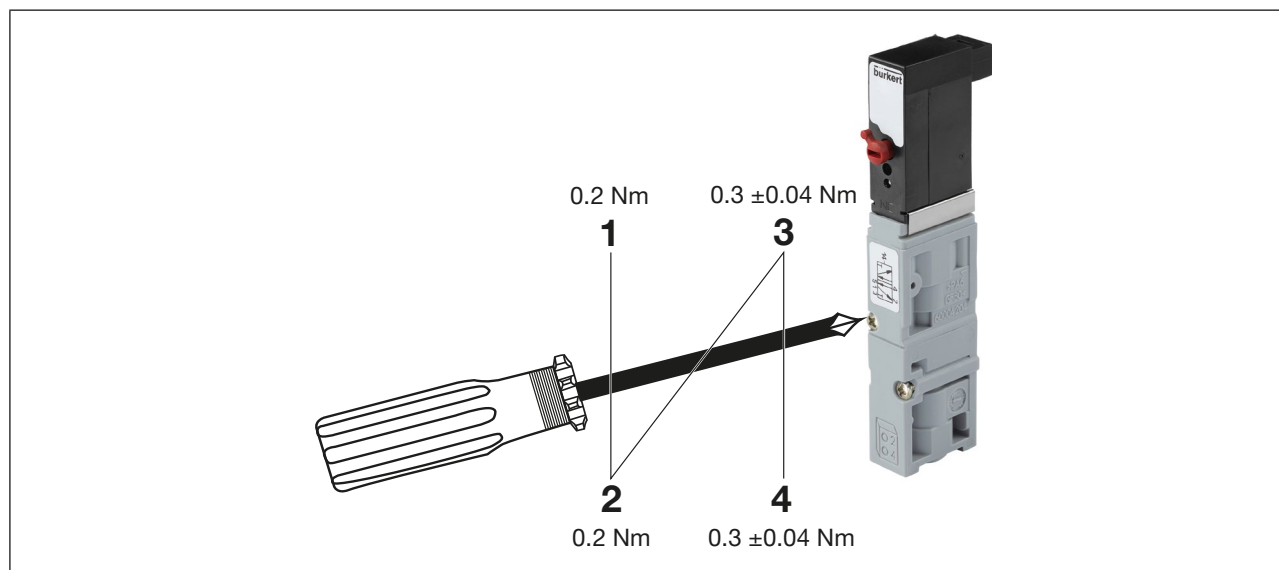

Fig. 75: Tightening the screws for valve replacement type 6524 and type 6525
- Tighten the fastening screws crosswise, observing the tightening torque (see “Fig. 75”, page 112).